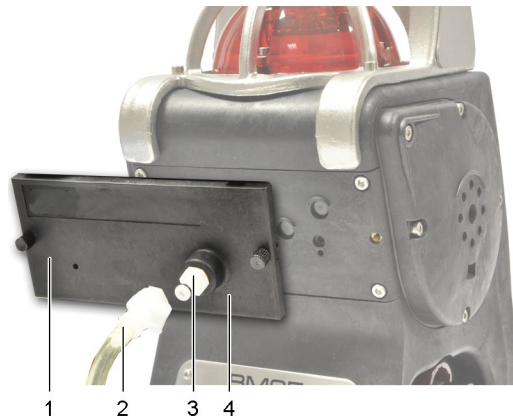

Figure 16: positioning the sensors cover (BM 25A/AW non-equipped with an electric pump)
- ■ Place and screw the cover over the sensors (Figure 16: positioning the sensors cover (BM 25A/AW non-equipped with an electric pump) ref. 1); this cover has no hump as previously mentioned (ref. 4).
- ■ Connect the sample line (ref. 2) to the gas inlet (ref. 3).